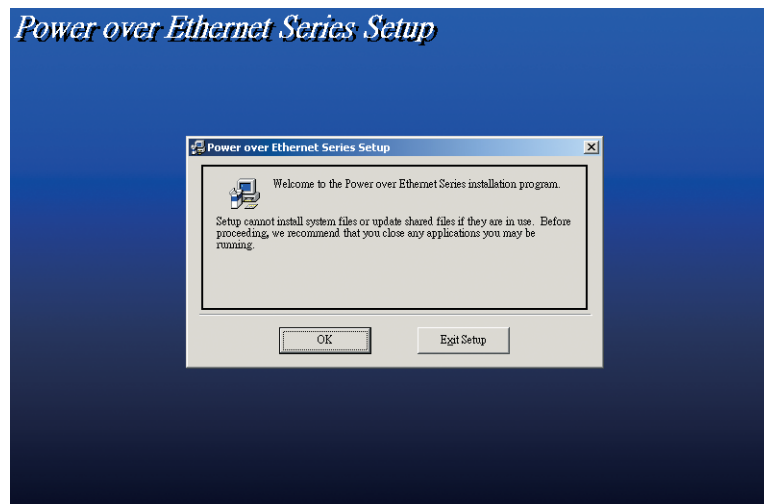

Figure 3-1.
4. Then, click the "OK" button to go to the next step. See Figure 3-1.